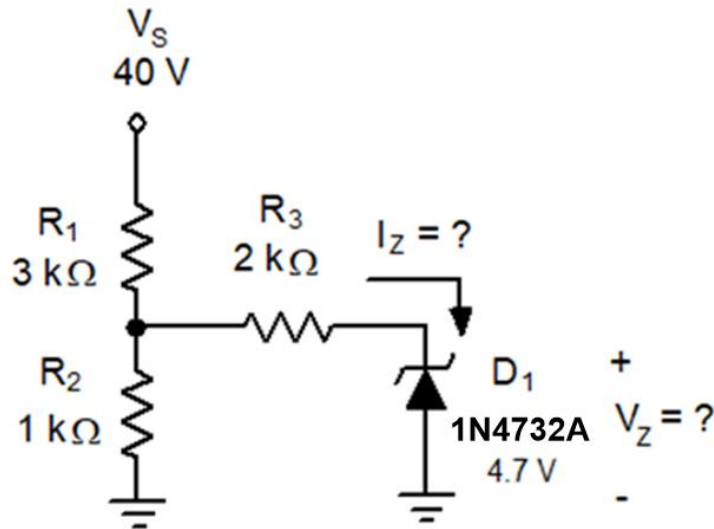

Figure 2-50.
- 2-49. Find I_Z and V_Z for the zener diode given in Fig. 2-50. (Hint: Use Thevenin's theorem and the ideal zener diode model.)
- 2-50. Find I_Z and V_Z for the zener diode given in Fig. 2-50. Assume that V_S is reduced to 10 V. (Hint: Use Thevenin's theorem and the ideal zener diode model.)
- 2-55. Use Multisim to analyze the circuit shown in Fig. 2-50. Obtain the solution for Prob. 2-49. Specifically, find I_Z and V_Z . This means a DMM adjusted to measure current should be in series with the diode and a DMM adjusted to measure voltage should be across the diode.